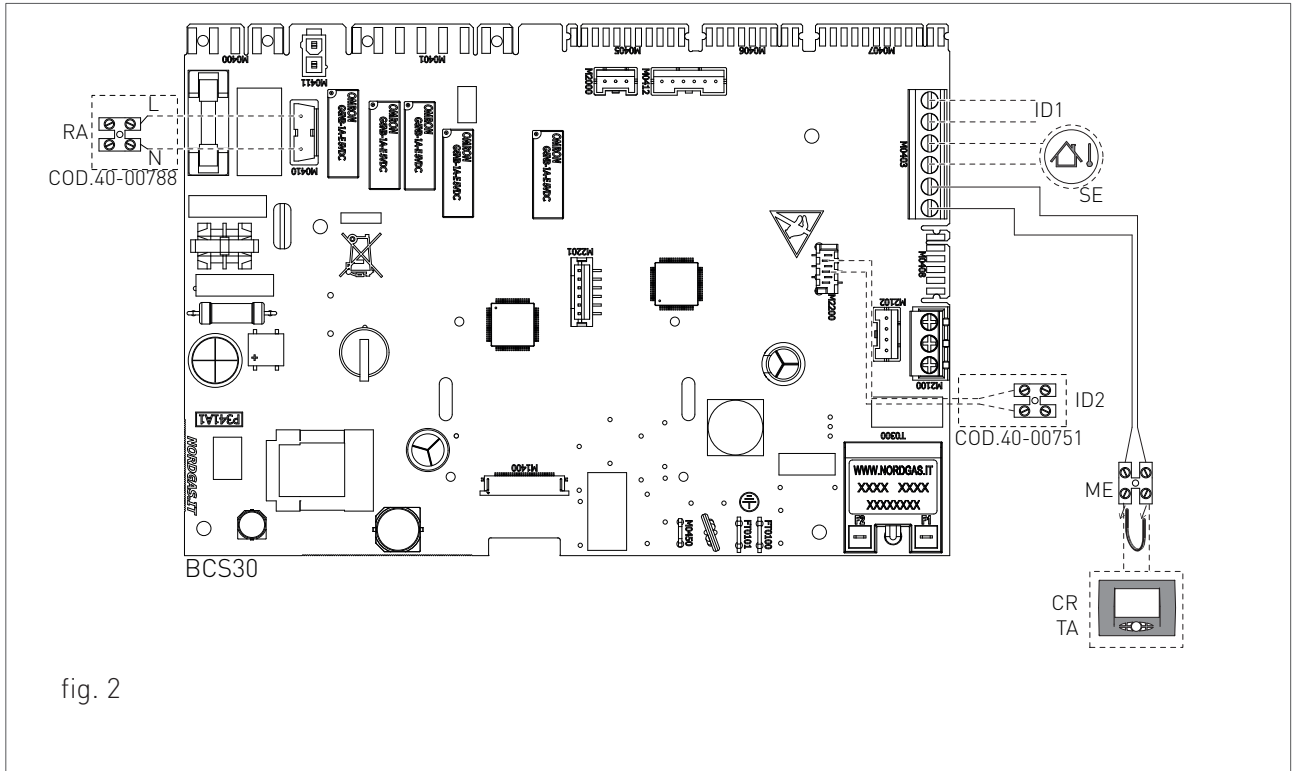

fig. 2
operate on the 'ME' clamp (see fig.2 and fig.3) which is outside the control panel, as follows:
- › after removing the back plate, connect the items below to the P.C.B. (see fig. 2).
- › The discharge duct must be perpendicular with the opposite internal wall of the chimney or of the fumes exhaust duct (fig. 2).